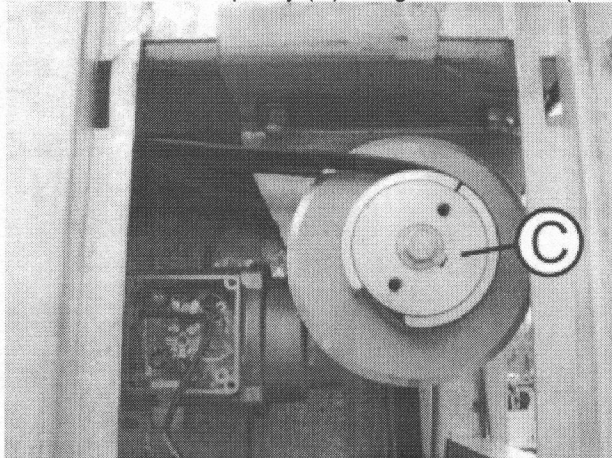

Fig. 087
7. Extract first pulley (C) using the extractor (4.263-030) from the shaft (Fig. 087).